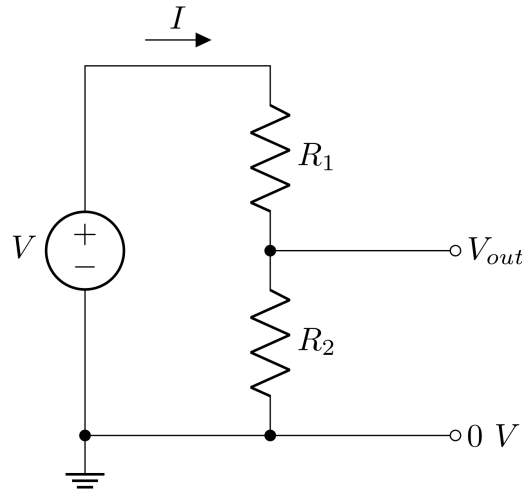

Figure 1: Ideal Voltage Divider
An ideal voltage source (no internal resistance) drives current around the loop of resistors shown in Figure 1 .
1. Draw a modified circuit diagram of Figure 1 to model the non-ideal voltage source as an ideal source with a series resistor.
1. Build a voltage divider similar to the one shown in Figure 1 using resistors of around $1\text{k}\Omega$. Draw a diagram of the circuit in your lab notebook. Make sure to label the resistors and record all measured component values and voltages.